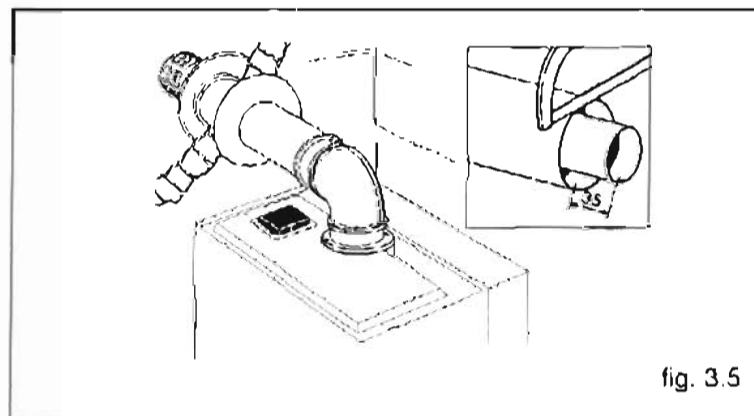

fig. 3.5
N.B. : When shortening the flue pipe, cut the external 100 diam. pipe and the internal 60 diam. pipe, keeping the original difference in length between the two (35 mm). (see fig. 3.5).